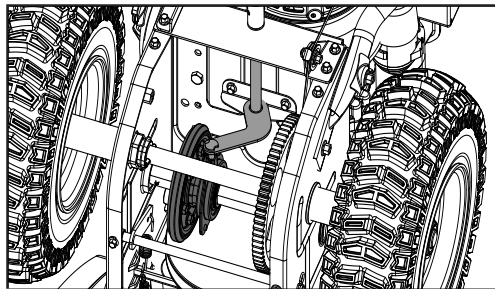

Figure 48
- Follow the previous steps in reverse order to reassemble the parts (Fig. 48).